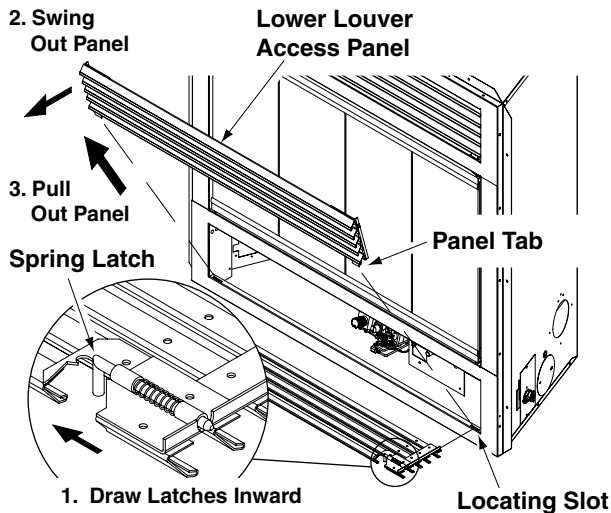

Figure 28 - Removing Lower Louver Access Panel
1. Use your index fingers to locate the left and right spring latches found just under the top louver then draw them inward to release the pins holding the panel on the side face (see **Figure 28**).
The top louver panel may be removed for inspection and cleaning by following the instructions for removing the lower louver access panel. (see **Figure 28**).